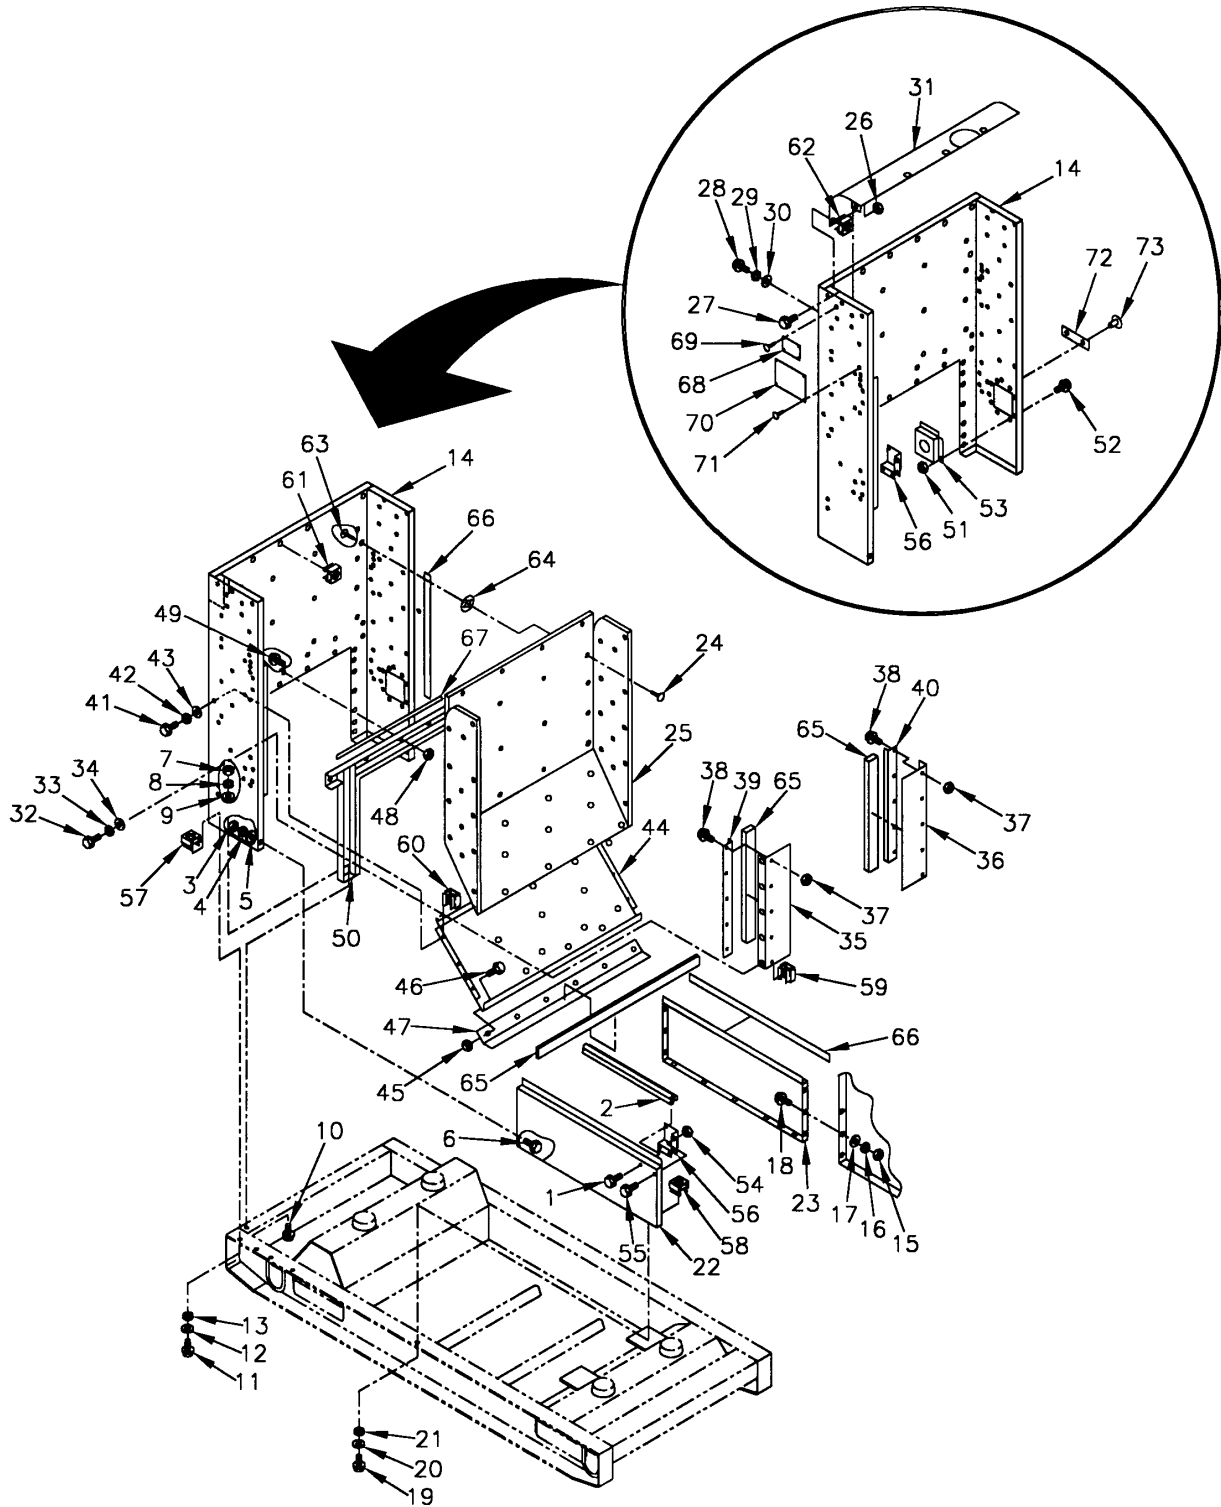

FIGURE 4-8. FRONT HOUSING SECTION (SHEET 1 OF 2)
- (1) Shut down generator set, paragraph 2.11.2.
- (2) Remove BATTERY ACCESS door. Refer to paragraph 4.7.1. Remove batteries, paragraph 4.6.3, and NATO SLAVE RECEPTACLE, paragraph 4.6.4.
- (3) Remove engine compartment access doors. Refer to paragraph 4.7.1.
- (4) Remove top housing section, paragraph 4.7.3.
- (5) Remove bolts (1, Figure 4-8) and ground rod sections (2) from brackets (56).
- (6) Remove nuts (3), lockwashers (4), washers (5), and bolts (6) from door sills (22 and 23) and front housing (14).
- (7) Remove nuts (7), lockwashers (8), washers (9), and bolts (10) from front housing (14) and skid base.
- (8) Remove bolts (11), lockwashers (12), washers, (13) and front housing (14) from skid base.
- (9) Remove nuts (15), lockwashers (16), washers (17), and bolts (18), from doors sills (22 and 23) and generator set.
- (10) Remove bolts (19), lockwashers (20), washers (21), and door sills (22 and 23) from skid base.
- (11) Remove clip halves (24) and insulation (25) from front housing (14).
- (12) Remove locknuts (26) and bolts (27) from air deflector (31) and front housing (14).
- (13) Remove bolts (28), lockwashers (29), washers (30), and air deflector (31) from front housing (14).
- (14) Remove bolts (32), lockwashers (33), washers (34), and radiator panels (35 and 36) from front housing (14).
- (15) Remove locknuts (37), bolts (38), and supports (39 and 40) from radiator panels (35 and 36).